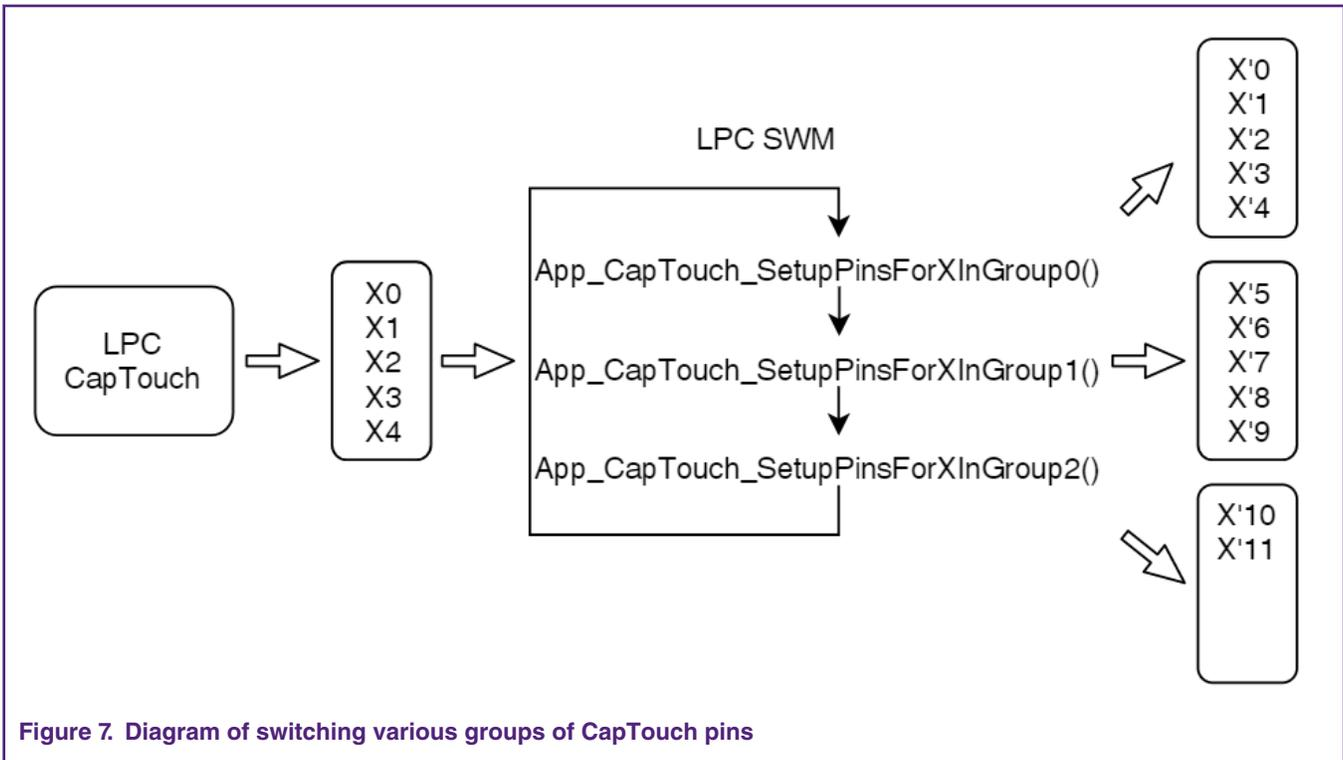

Figure 7. Diagram of switching various groups of CapTouch pins
- App_CapTouch_ScanDoneHandler() includes the steps of stopping the most recent done sequence, moving the group index to next, preparing the pins settings for next group, and launching the scan for next group finally. See to Figure 7 as the diagram of switching different group of CapTouch pins.